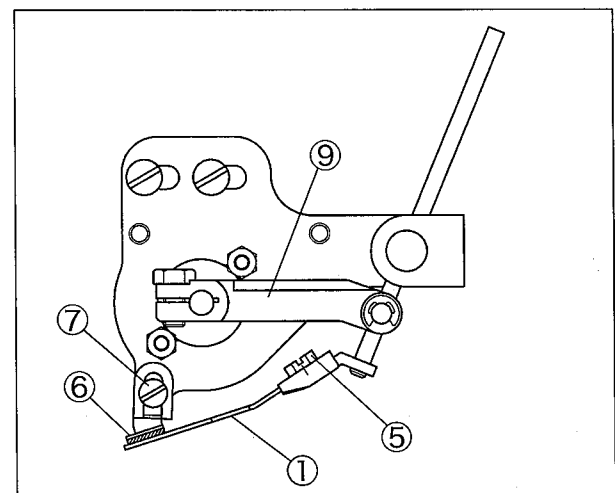

Fig. 31
Loosen the screw ⑦ to hold the needle thread slightly with the thread clamp rubber ⑥ and the wiper ① when the wiper ① returns. (Fig. 31)